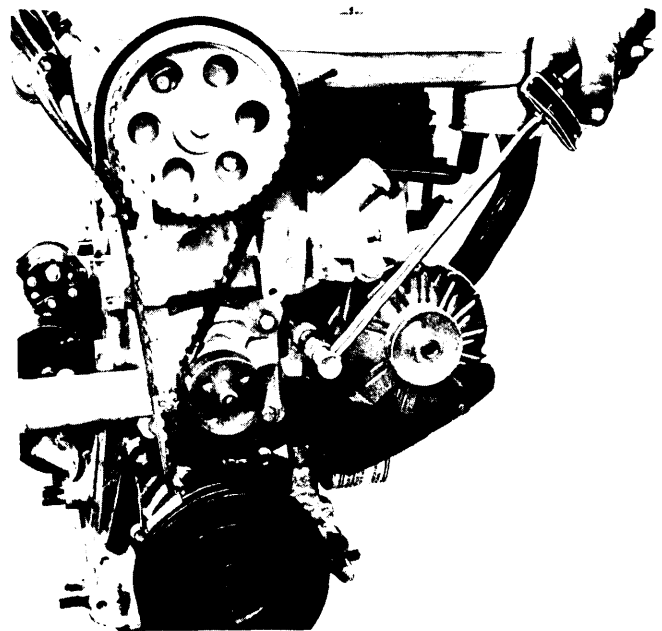

Fig. 6 Timing Belt Adjustment
**Belt Tension Adjustment** — With water pump bolts loosened, position tool (J-23654 or equivalent) in gauge hole adjacent to left side of water pump. Apply 15 ft. lbs. of torque with suitable torque wrench (see Fig. 6). Maintain this torque and tighten water pump bolts.